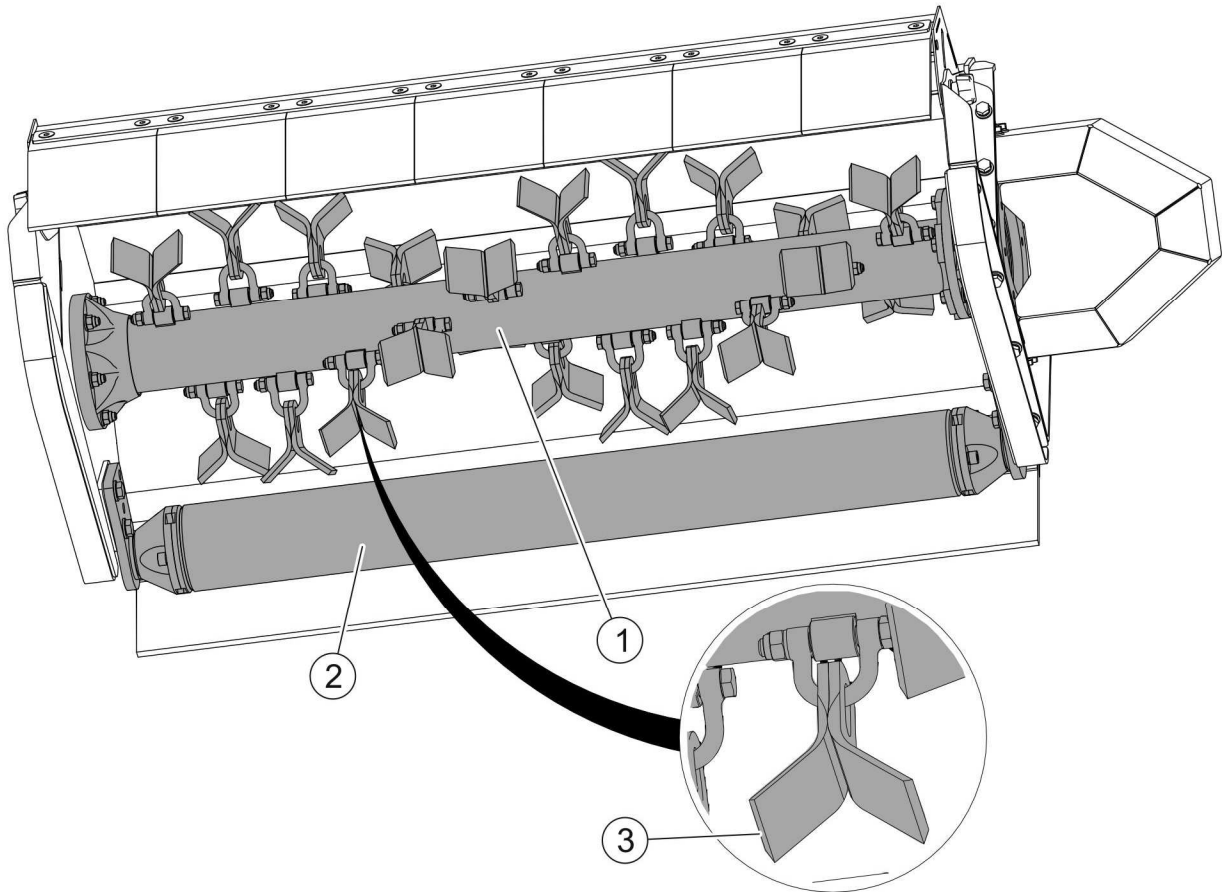

FIGURE 3.3 Cutting unit
(1)- cutting shaft; (2)- tracking shaft; (3)- cutting blade.
The cutting unit of the mowing head consists of cutting shaft (1) (FIGURE 3.3) on which cutting blades (3) are mounted. The cutting blades are designed to swing and avoid obstacles which can not be cut. Cutting height is adjusted by changing the tracking shaft (2) setting.